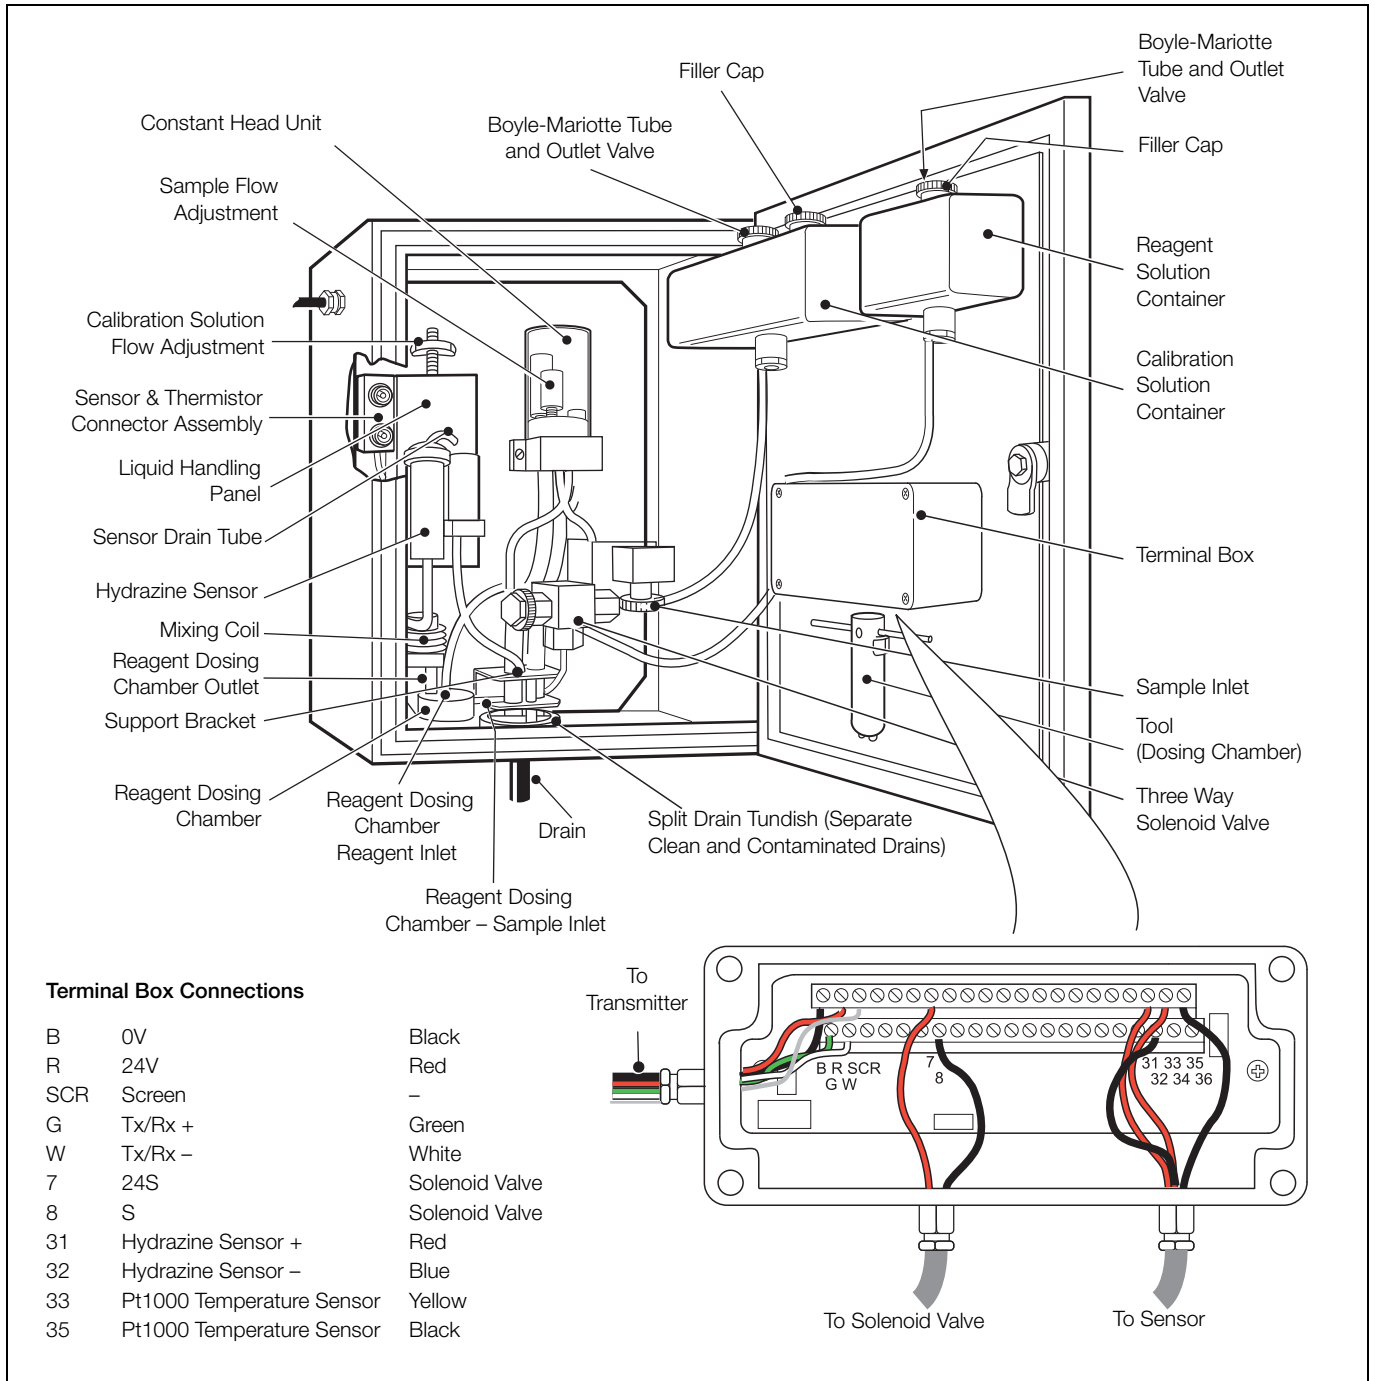

Fig. 4.6 Sensor Unit Cable Gland Entries and Electrical Connections
A 2 m (6.5 ft.) length of 4-way overall screened cable is normally supplied for interconnecting the sensor and transmitter units; longer lengths may be ordered separately. The interconnecting cable is routed to a terminal block in a electrical connection box on the inside of the case door – see Fig. 4.6. Push one end of the cable through the cable gland in the sensor unit case and then the junction box, prepare the cable end and connect it to
the terminal block as shown in Fig. 4.6. Tighten the cable glands. If the gland in the case has been transferred to the left-hand side, support the cable using the two cable ties provided.
8. Open the reagent container valve and establish flow through the new disc by clamping the sample inlet tube and applying suction from a plastic syringe to the reagent dosing chamber outlet – see Fig. 4.6, page 11.
The sensor unit is shown in Fig. 4.6, page 11. It consists of a metal case of similar construction to the transmitter case, with the pipework carrying the sample mounted on a panel bolted to the back with 4 x M6 captive bolts.